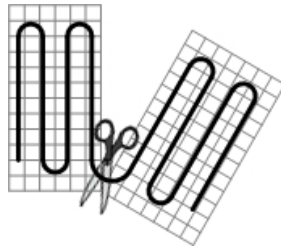

Figure 4
- Lay out the heating elements according to your lay out plan. The heating elements will be placed on the heating insulation with the adhesive side down. Cut the glass fibre webbing accurately without causing damage to the heating cable (see figure 4).